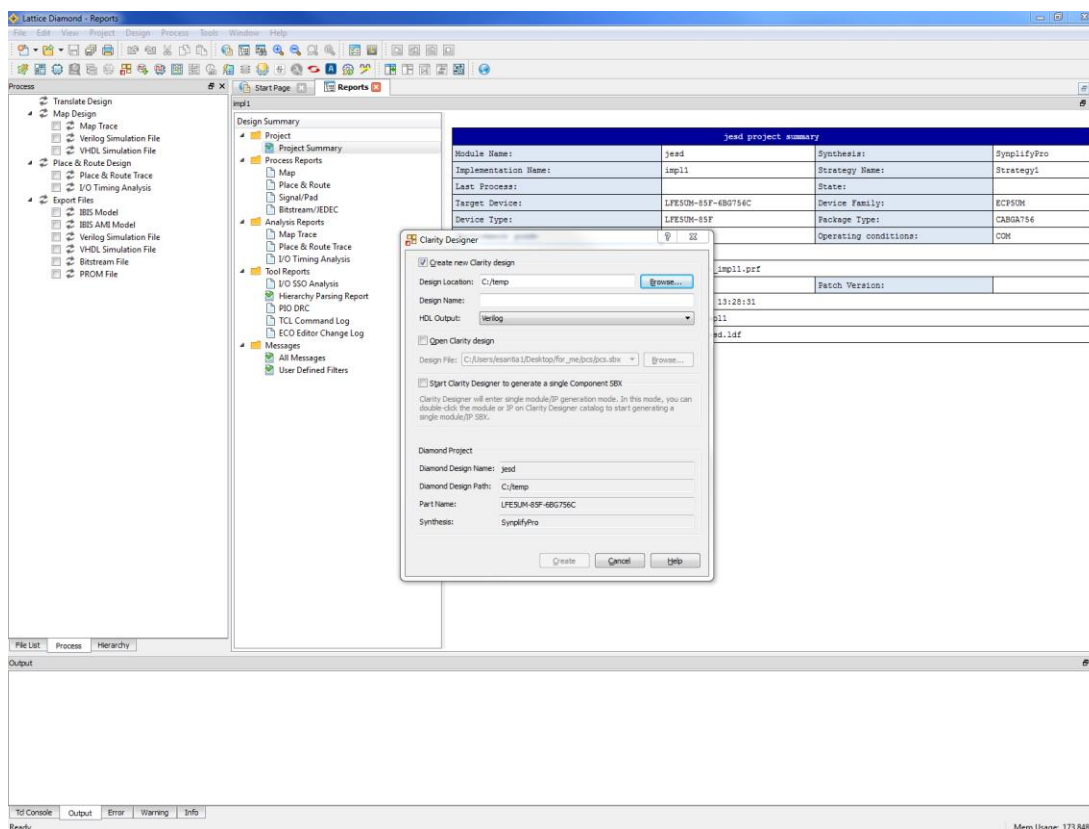

Figure 4.2. Starting Clarity Designer from Diamond Design Environment
3. Select and/or fill out the following items as shown in Figure 4.2:
The IPexpress can be started from the Lattice Diamond accessories in start menu of Windows. It can be started from the command line in Linux. The initial window of IP Express is shown in Figure 4.2. To generate a specific IP core configuration, specify: